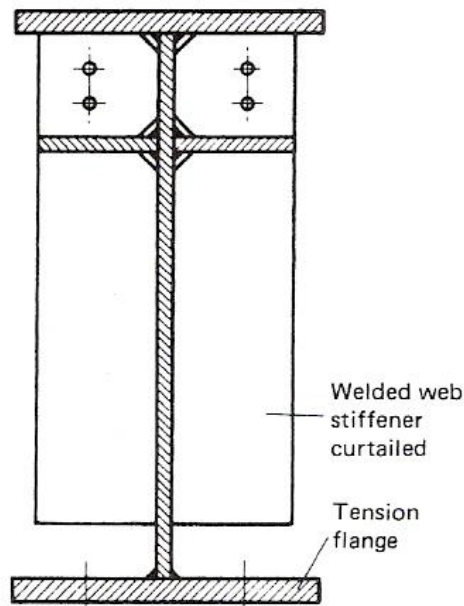
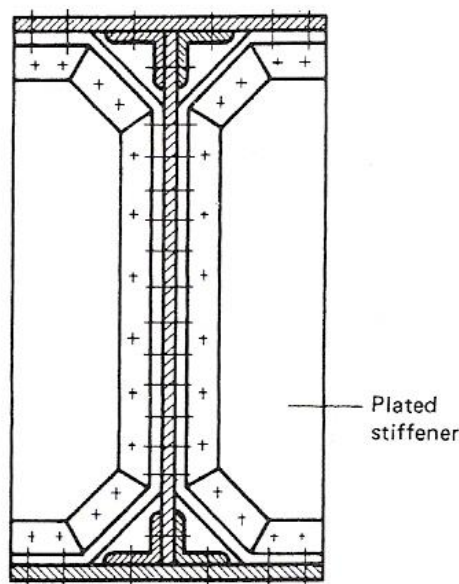

Figure 16 - Welded Fabricated Beam
Figure 17 - Riveted or H.S.F.G. Bolted Beam
As the name implies, these are (1) for making the webs of built-up members more rigid to withstand buckling and twisting due to imposed loads and (2) to transmit the load and prevent the toes of flanges buckling upwards (Figure 17). The stiffeners may be welded (Figure 16) or bolted or riveted (Figure 17). The welding of stiffeners to a tension flange of a fabrication subject to fatigue loading is not recommended due to the lowering of fatigue life. An overhead crane and its supporting girders are typical examples of fatigue loading.